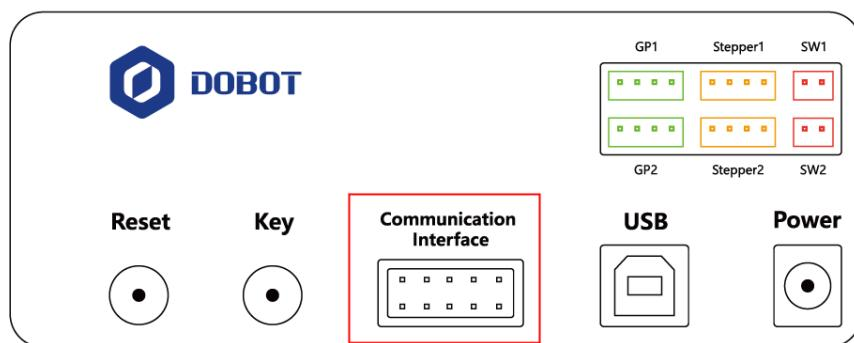

Figure 5.162 Connect with WIFI kit
**Step 1** Connect the WIFI kit to the UART interface on the base, as shown in Figure 5.162.